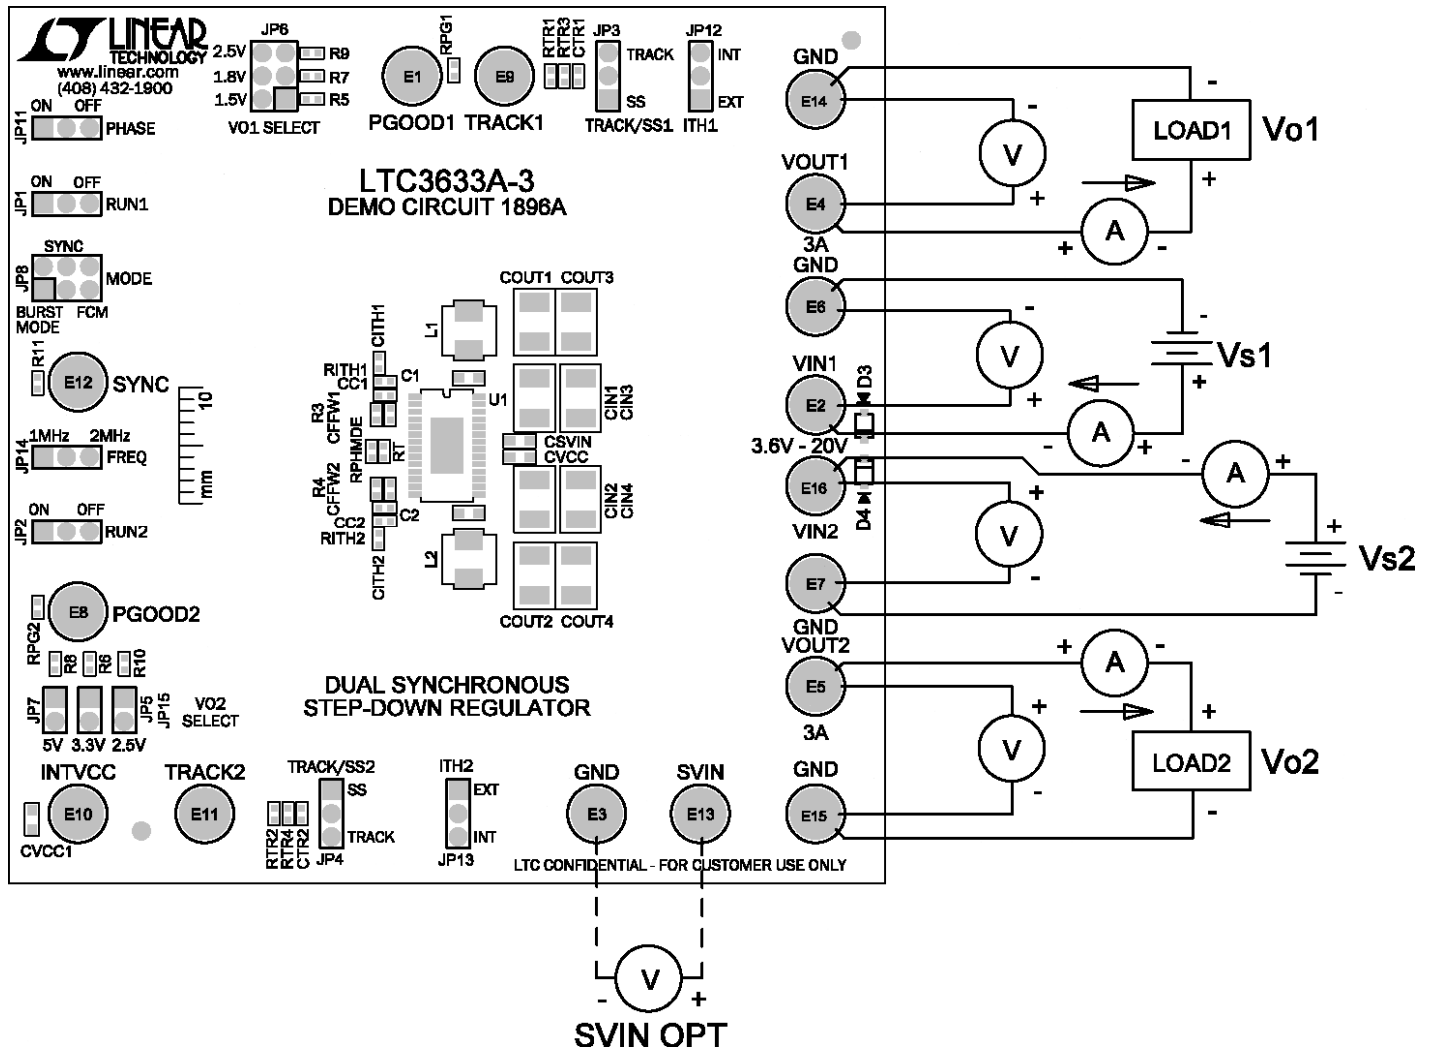

Figure 1. Proper Measurement Equipment Setup
The DC1896 is easy to set up to evaluate the performance of the LTC3633A-3. For a proper measurement equipment configuration, set up the circuit according to the diagram in Figure 1.
1. Connect the input power supply to the Vin1/Vin2 and GND terminals (Vin1 and Vin2 are separate nodes.). Connect the loads between the Vout and GND terminals. Refer to figure 1 for the proper measurement equipment setup.